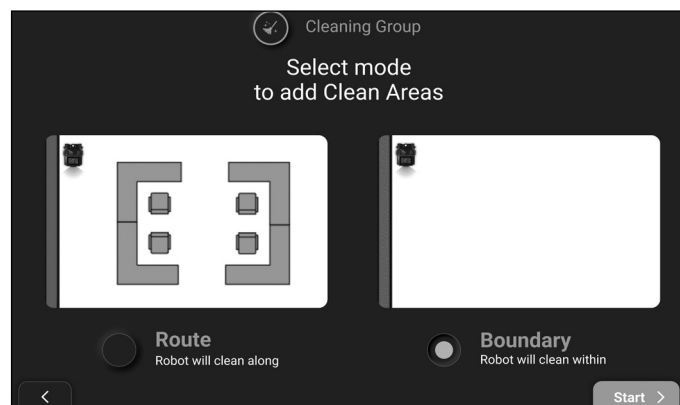

Figure 32
12. To create a cleaning area, select route or boundary (**Fig. 32**). Route is useful when cleaning areas with big obstacles, and the boundary is useful in cleaning large areas. Press 'Start' after selecting the mode of adding cleaning areas.